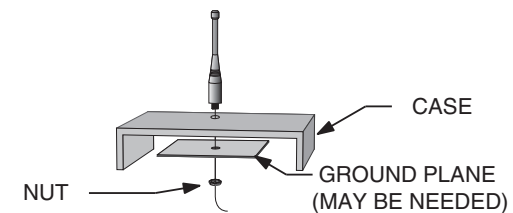

Figure 34: Remote Ground Plane
6. In some applications, it is advantageous to place the module and antenna away from the main equipment (Figure 34). This can avoid interference problems and allows the antenna to be oriented for optimum performance. Always use 50 $\Omega$  coax, like RG-174, for the remote feed.